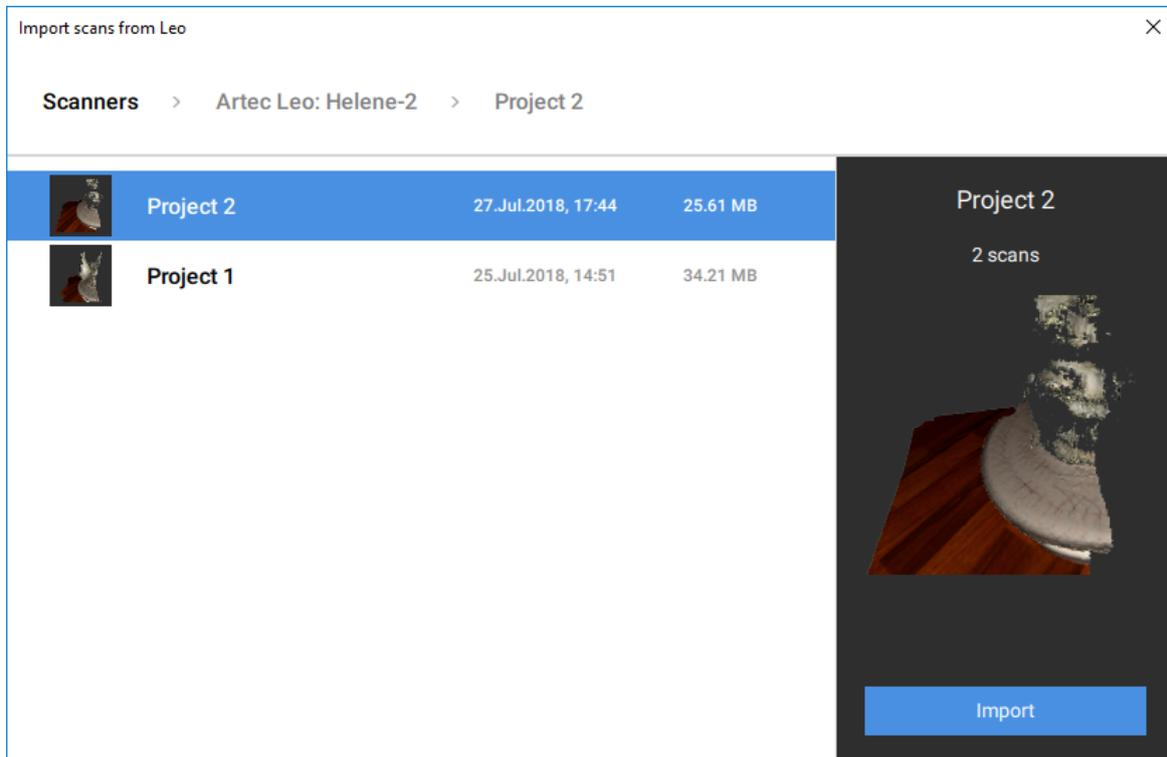

Figure 52: Dialog for selecting Leo projects to import.
4. Then using either LKM or ↑ and ↓ select the project that you want to load (Figure 52)